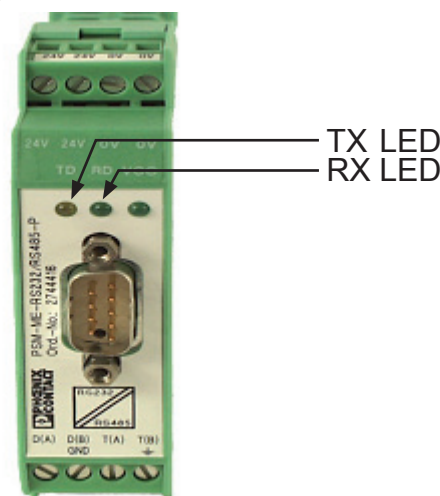

Fig. 5.1. RS-485 Converter
- Is the RS-485 converter connected to the correct COM port? If connected correctly, the transmit LED (TX) (Fig. 5.1) should blink after measurement start to indicate that computer is sending data.